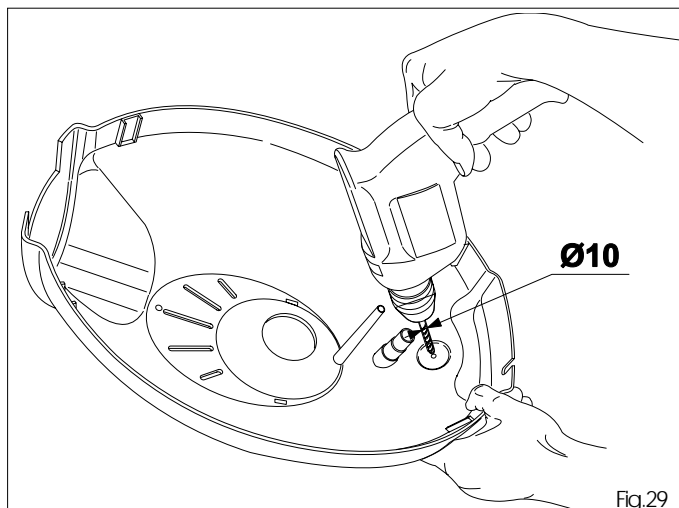

Fig.29
8.2 Pick up the housing and, using an appropriate bit, drill from the inside outward in the guided area (fig. 29).